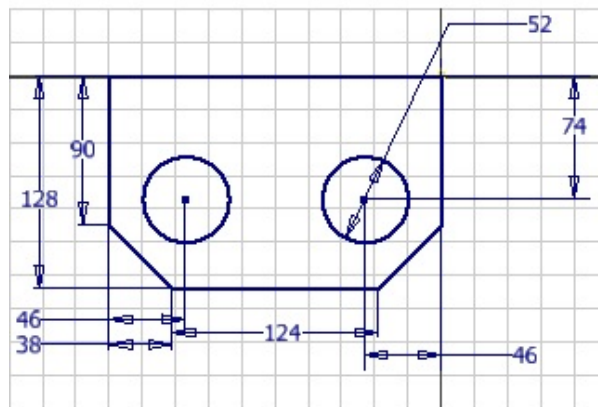

Figure 5-80 Sketch of the base feature
- On the XY plane, create the base feature with two holes, refer to Figures 5-80 and 5-81.
5. Draw the sketch of the base feature using various sketching tools, see Figure 5-80.